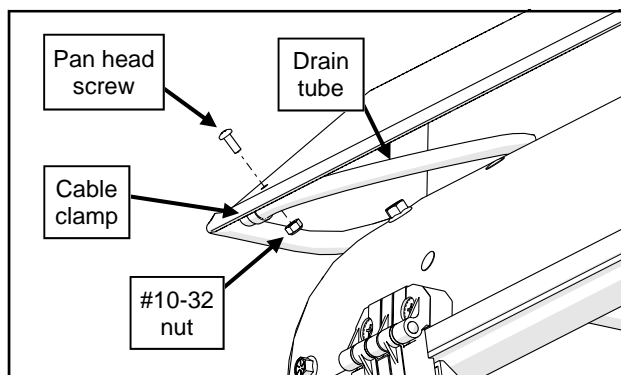

Fig. 2.20 (Attach Drain Tubes to Outer Roof)
**2.20** Pull out the slack in the drain tube at the driver's side rear of the roof pan. Pull carefully to avoid pulling it off the A/C unit. Secure the drain tube to the rear corner of the outer roof with a nylon clamp, #10-32 screw and nut, through the hole in the rear of the roof. Figure 2.20 Repeat for the other side.